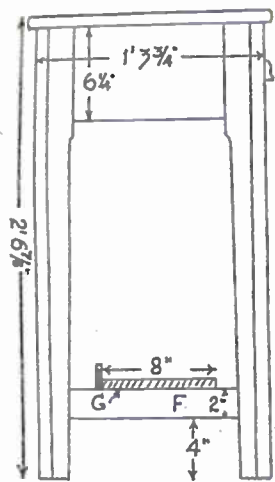

Fig. 1
A simplified method of construction is given to enable even the tyro in woodwork to make the article satisfactorily with reasonable attention to detail. A side view of the table is given in Fig. 1 with suitable dimensions. Make a start with the upper portion, drawn in Fig. 2. This is constructed by nailing together the two sides to a back piece, and fixing across at the front two bars (A) 2ins. wide. All parts are of $\frac{7}{16}$ in. wood. Note how the bars are rebated at their ends to fit over the sides. It is important to take pains in getting this upper part quite